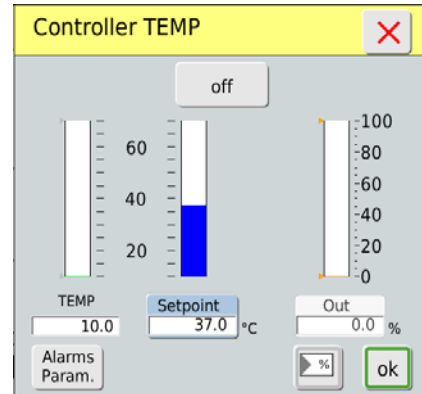

Fig. 27: "Controller TEMP" menu
- Leave the "Alarm TEMP" menu by pressing the "red cross". This returns you to the "Controller Temp" menu (Fig. 27).